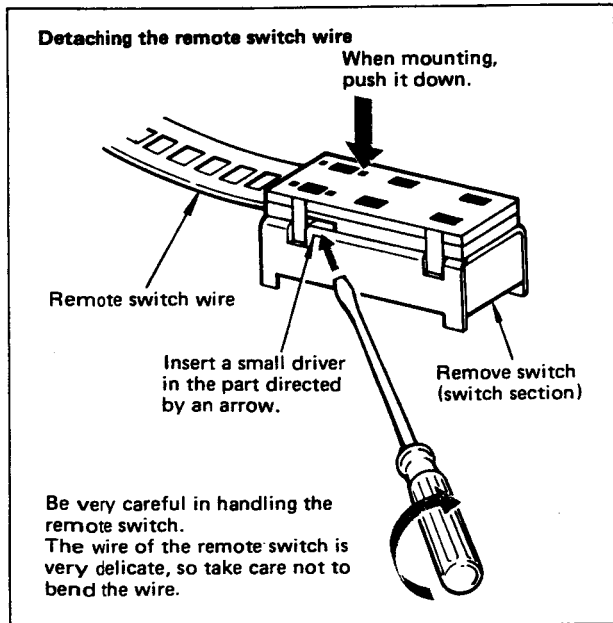

Fig. 2
- b. Pull out lamps ① to ⑤ in photo 5.
① ~ ⑤ : Pilot lamp
- c. Remove the remote switch wire as shown in Fig. 2.
- d. Remove screws ① to ④ in photo 4 as well as screws ⑥ to ⑨ in photo 5 and then remove the heat sink.
① ~ ④ (photo 4): Bind head tapping B tight screw
⑥ ~ ⑨ (photo 5): B.W head tapping screw